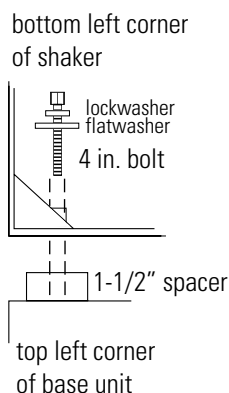

Figure 1-19. Shaker To Shaker
4. Carefully lift and position the top unit over the spacers on the bottom unit. Align the (4) connection point holes in the bottom of the top unit with the (4) spacers and threaded inserts. (Helpful hint: Use masking tape around outside edge of spacers to hold in place during installation. Remove tape after installation.)
5. Assemble the lockwashers, then the flatwashers onto the 5/16-18 x 4" bolts. Then thread the bolts through the connection point and spacer, and into the unit below. Refer to Figures 1-19 & 1-20. Tighten bolts.